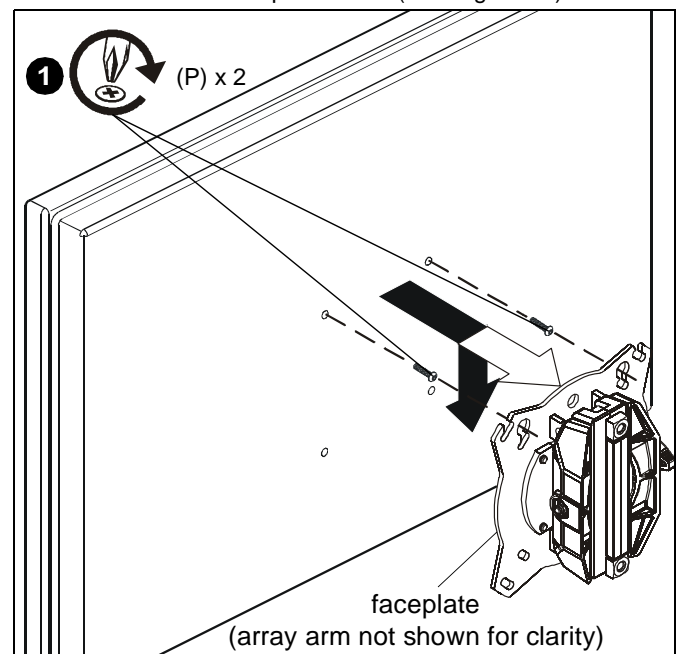

Figure 10
1. Using Phillips screwdriver, carefully install two M4 x 12mm Phillips pan machine screws (P) into the *upper* mounting holes on the display. Thread screws completely into display, then back out 3 complete turns. (See Figure 10)
2. Pick up and align display so that screws (P) (installed on the back of the display in the previous step) fit into the mounting holes on the faceplate. Lower the display firmly into place. (See Figure 10)